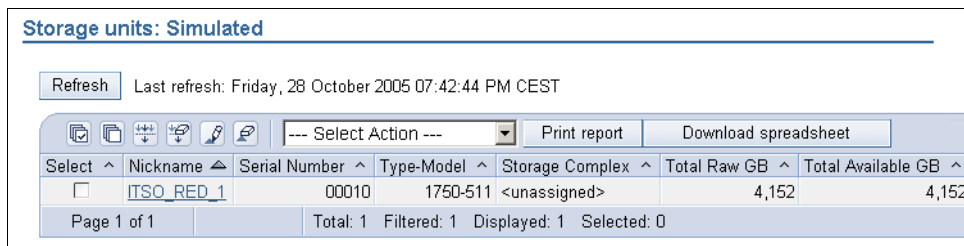

Figure 12-7 Successfully imported Storage Unit
3. You will then be prompted to name the Storage Unit and verify your choices before the import begins. When the import is complete, you will now see a new Storage Unit listed under the Storage Units tab in the Simulated manager. An example is shown in Figure 12-7.